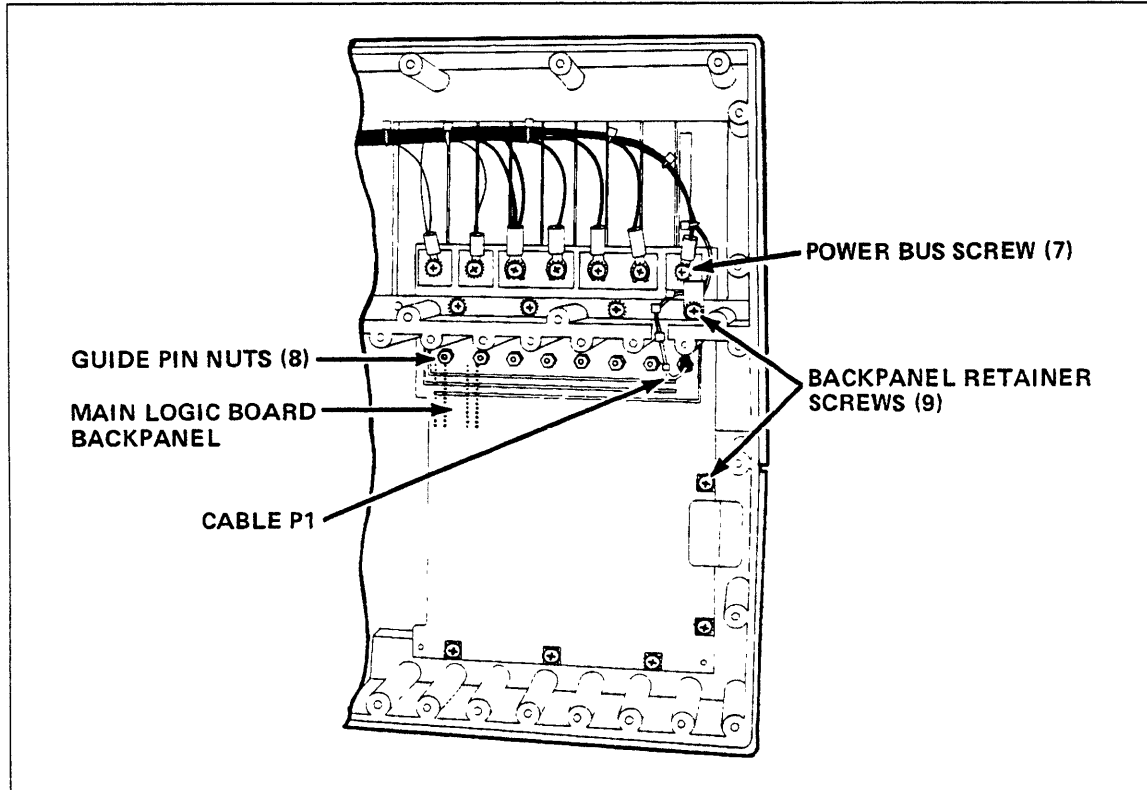

Figure 9-11. Main Logic Board Backpanel
7. Loosen seven screws from power bus (figure 9-11). Label (for easy reassembly) and remove the seven wires.
8. Unplug keyed cable P1 attached to pins AB2 through AB5 on backpanel (figure 9-11).
9. Remove nine screws that connect backpanel to DI base (figure 9-11) and carefully remove backpanel.
10. Remove eight guide pins from top inside of backpanel by removing eight nuts on back of backpanel (figure 9-11).